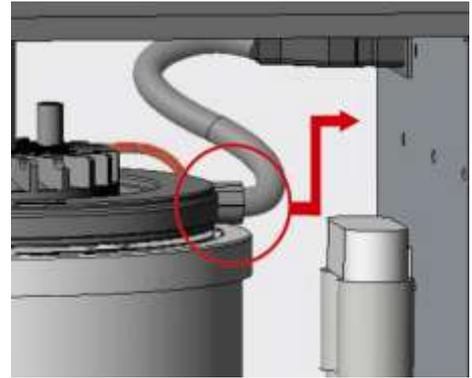

Fig. 35
- B. Place the cylinder in the bottom flange, taking care to place the connector cable as in fig. 35.